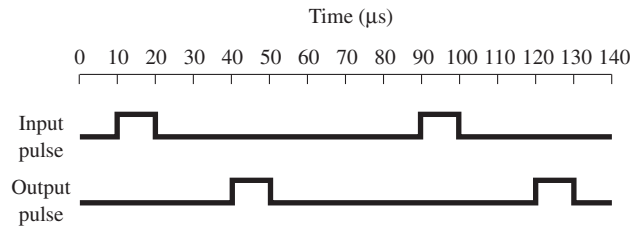

Figure P12
- C D** 12. Use two 74121s as a delay line to reproduce the waveforms shown in Figure P12. (The output pulse will look just like the input pulse but delayed by $30\ \mu\text{s}$.)